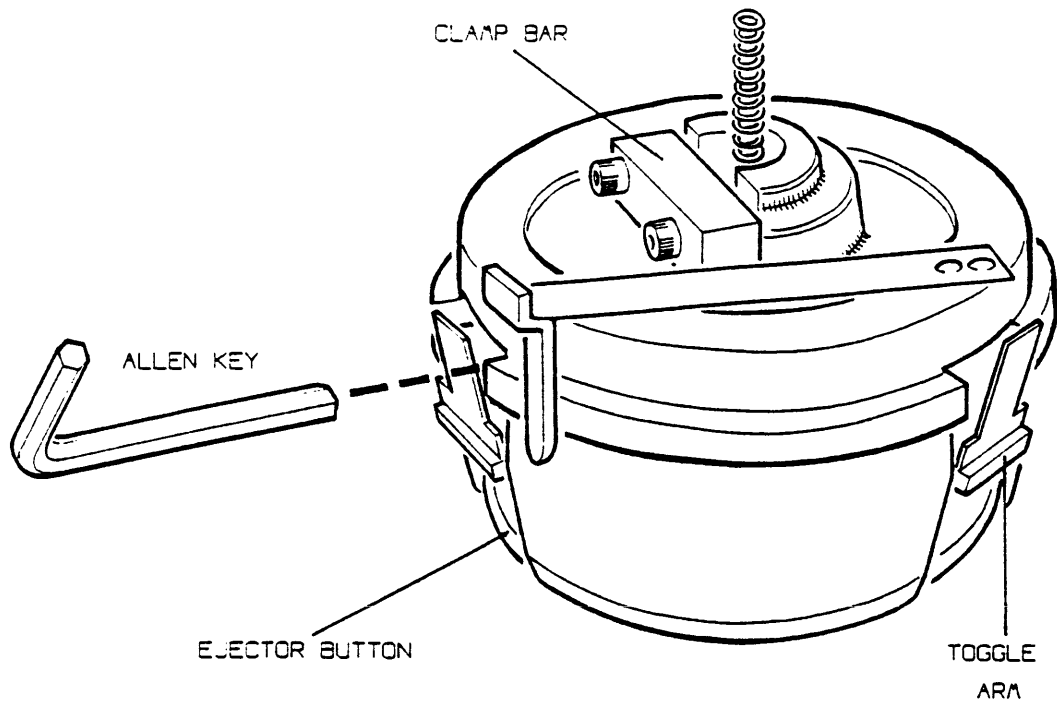

FIGURE 7.6.4 THE SUPPLY HUB
The hub height may be successfully adjusted by trial and error. The hub is illustrated in Figure 7.6.4.
- iii) Use a 3 mm Allen key to slacken the hub ejector button retaining screw (located behind one of the toggle arms, as illustrated in Figure 7.6.4) until the ejector button springs forward.